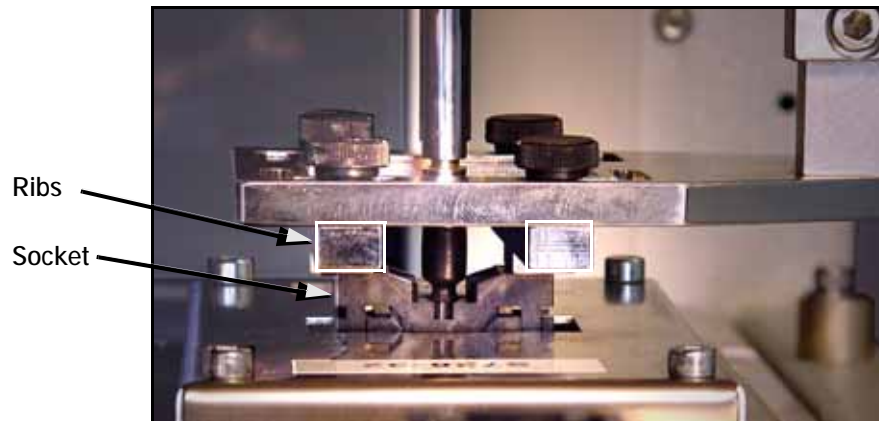

Figure 4-5: The Socket Opener ribs contact the top of a Socket. (Optima Socket Adapter shown.)
- 3c. By hand, move the Socket Opener down until the opener ribs open the socket completely. See Figure 4-5.